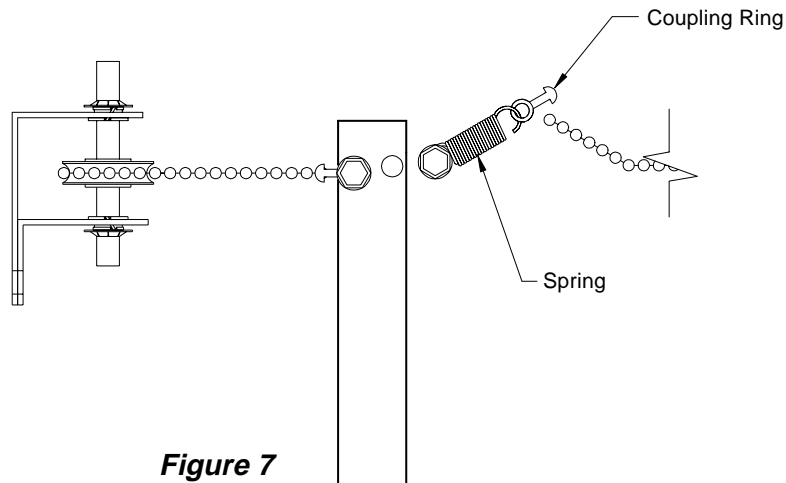

Figure 7
- 9) Proper tension in the chain extends the spring approximately $\frac{1}{8}$ ". If tension in bead chain is not sufficient, remove Tek screw securing the spring to the traveling bracket and remove the coupling ring from the chain with needle-nose pliers, **See Figure 7.** Then remove the appropriate number of beads from the chain and re-attach the chain to the coupling ring and spring. Re-attach the spring with Tek screw to the traveling bracket and repeat this step if necessary.